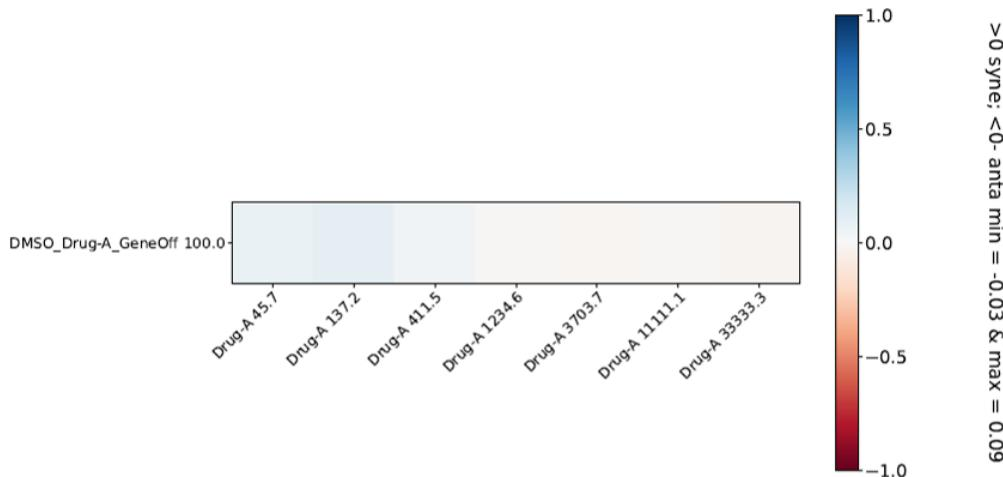

Figure 46: 2D heatmap for the time point 72h, in case of a ( $m \times n$ ) matrix combination.
- 2D heatmap with the BI score, see Figure 46.